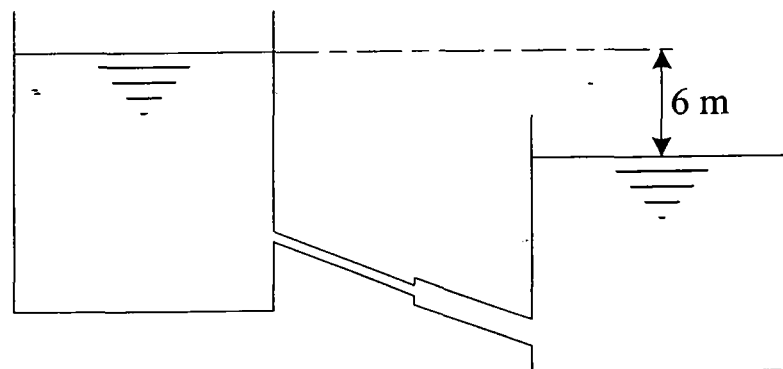

Figure Q5[b]
- [b] Two tanks are connected with the piping system with the first pipe having a diameter of 150 mm and 6 m long, and the second pipe has a diameter of 225 mm with the length of 15 m Figure Q5[b]. The water surface in the first tank is 6 m above the second tank. Calculate the losses exist and determine the flow rate of flowing water. (Take the friction coefficient for both pipes as 0.01).